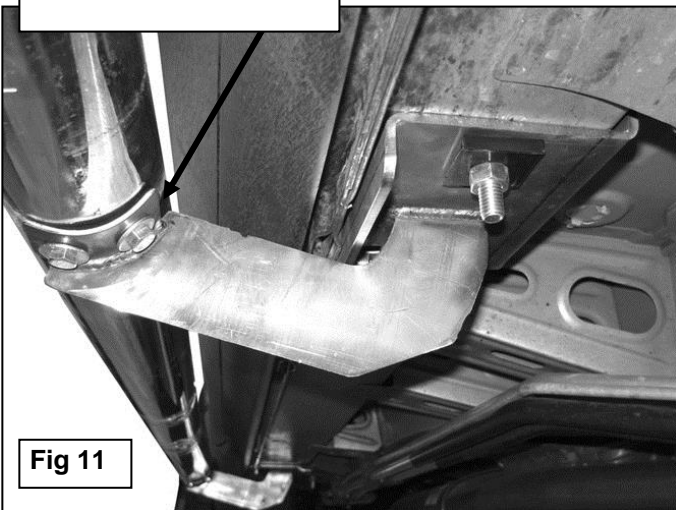

Fig 11
8. Carefully position the passenger Sidebar onto the Mounting Brackets. Bolt the Sidebar to the Mounting Brackets with the included (4) 8mm x 25mm Hex Bolts, (4) 8mm Lock Washers and (4) 8mm Flat Washers, **(Figure 11)**.